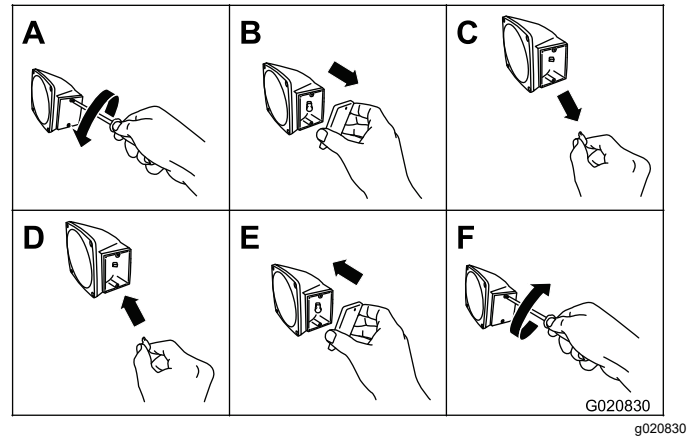

Figure 56
1. Use a screwdriver to remove the 2 screws from the small rectangular lens on the side of the light (Figure 56).
2. Remove the lens (Figure 56).
3. Pull the bulb out of the socket (Figure 56).
4. Push a new 168 bulb into the socket (Figure 56).
5. Install the lens and the 2 screws (Figure 56).